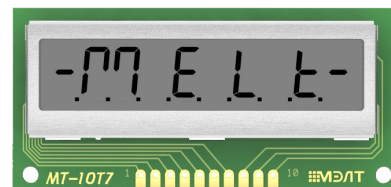
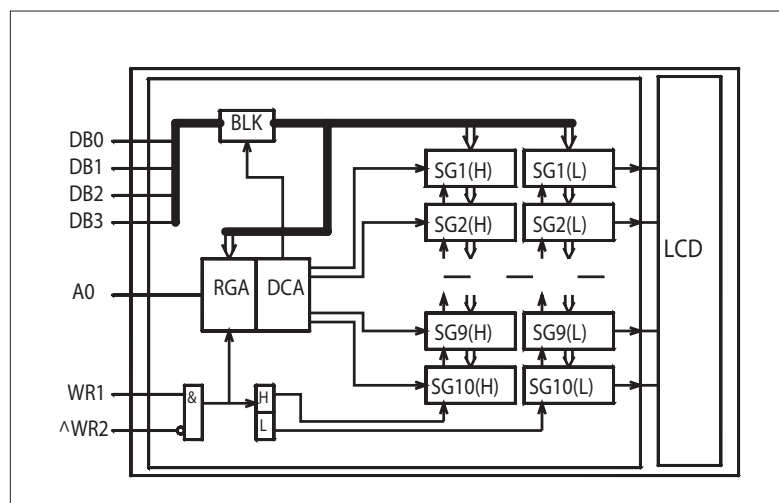
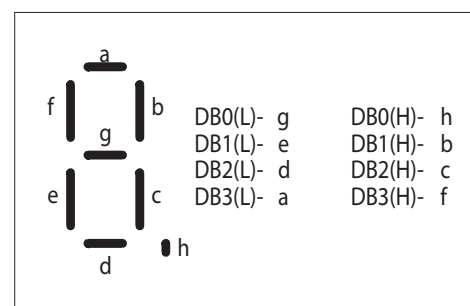

Fig. 1.
Fig. 4.
Fig. 5.
MT-10T7/MT-10T8/MT-10T9 LCD display modules are composed of LSI controller and LCD panel. The display modules are capable of displaying 10 character locations (digit + dot). MT-10T7/MT-10T8 display module appearance is shown in Fig. 1/ Fig. 2, MT-10T9 display module appearance is shown in Fig. 3. Any segment of any character location can be set on/off independently of other segments. The structural scheme of displays is shown in Fig. 4. Data registers in LSI are divided into two nibbles: SGx(L) and SGx(H). Write of data to the character location is performed in two clock periods: first to the low nibble and then to the high nibble. The low nibble is in charge of segments g, e, d, and a, while the high nibble is responsible for segments h, b, c, and f (see Fig. 5). Write of 'H' highlights a corresponding segment, and write of 'L' extinguishes it.